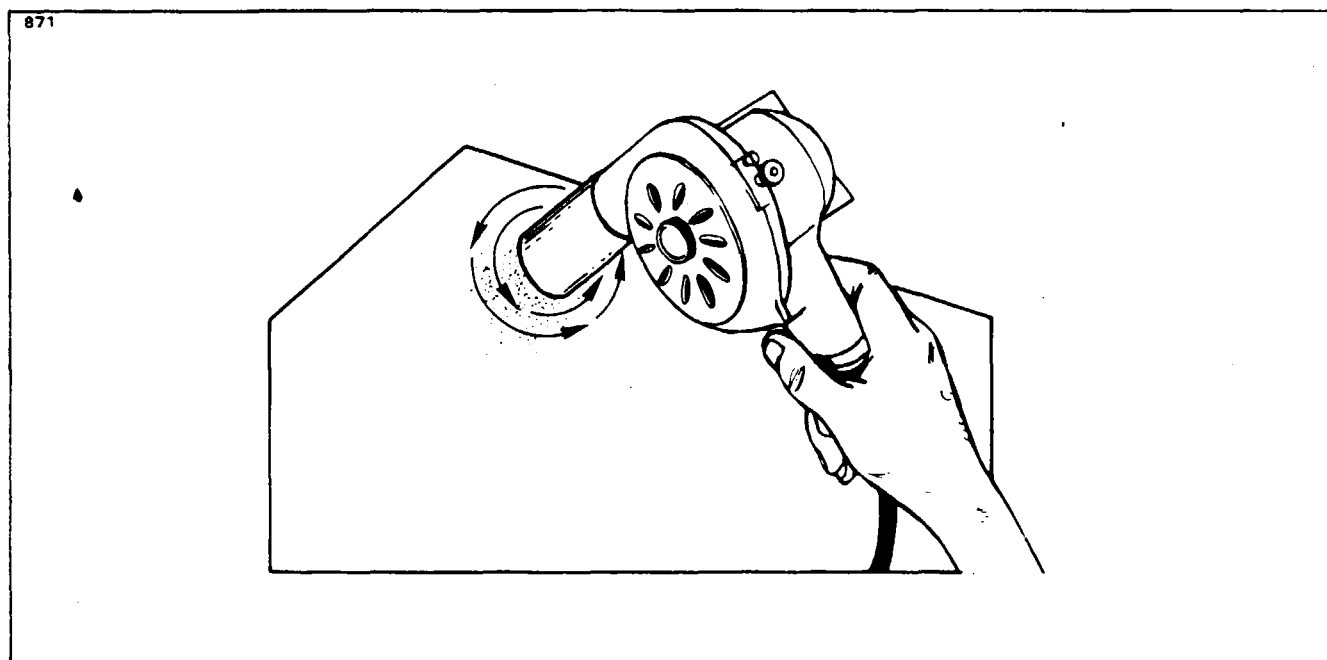

Figure 4-27. Surface Scratches, Abrasions or Ground-in-Dirt
b. Surface Scratches, Abrasion or Ground-in-Dirt: (Refer to Figure 4-27.)